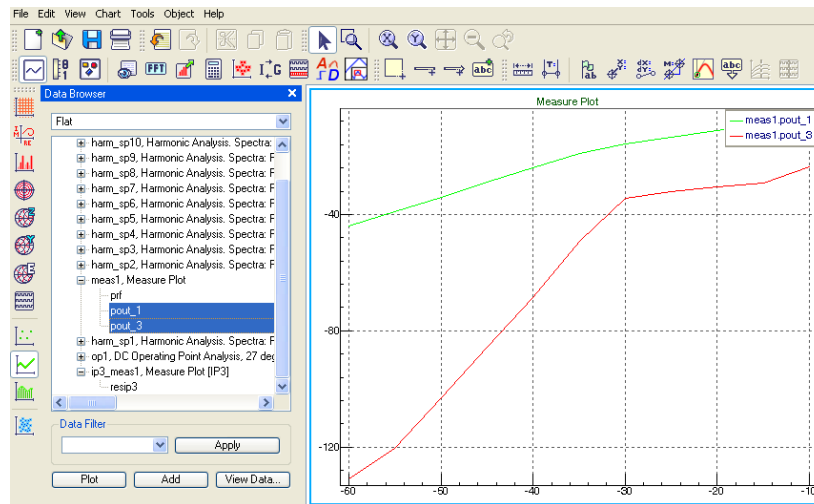

Figure 20: IP3 Simulation Plot
5.3.1: To display the P1dB simulation results, from SMARTVIEW Data Browser window open meas1 plot, choose both vectors pout_1 and pout_3, and press **Plot** (Figure 20).